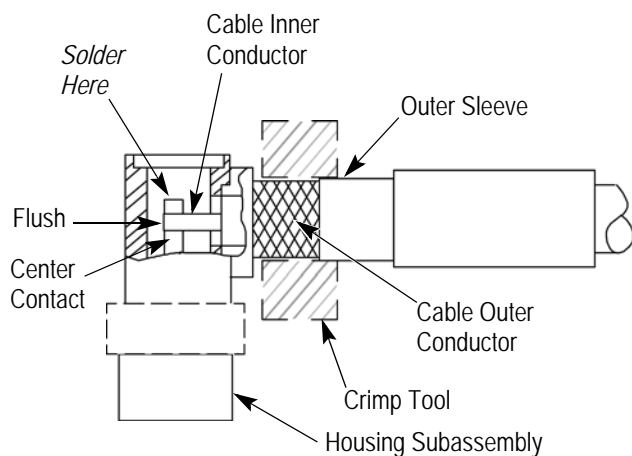

Figure 4
### 3.2. Soldering of Cable Inner Conductor to Center Contact (Figure 4)
- Hold cable dielectric and inner conductor flush as shown in Figure 4.
### 3.3. Crimping of Cable Subassembly to Housing Subassembly (Figure 4)